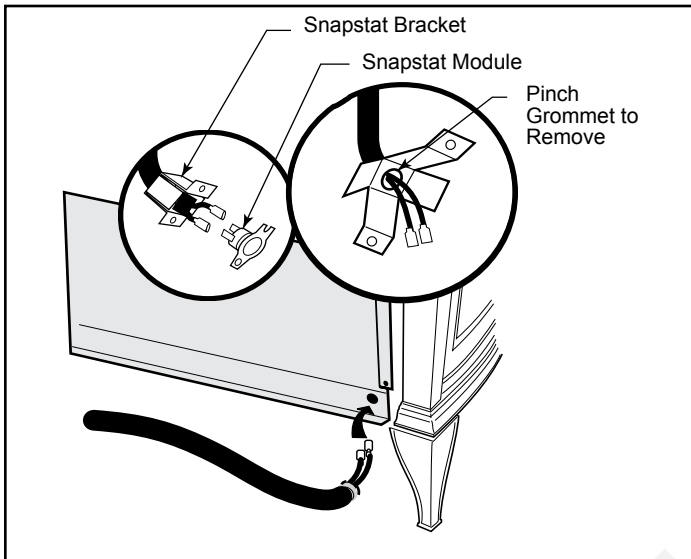

Figure 36 - Remove the snapstat and grommet from the bracket and insert the grommet into the inner shroud.
5. Connect snapstat leads. Disconnect the snapstat module from the leads inside the snapstat bracket. (Figure 36) Bend open the snapstat bracket. Use needlenose pliers to remove the black plastic grommet from the bracket. Discard the bracket. Insert the grommet and wires into the large hole at the bottom right corner of the inner shroud. Feed the snapstat wire leads through the grommet into the stove interior. Connect the two (2) wires to the two (2) snapstat extension leads attached to the inner shroud.